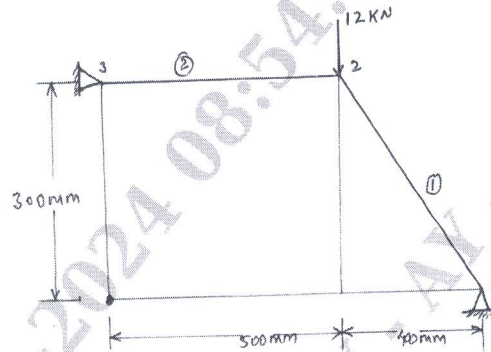

Fig. Q4 (b)
- b. For truss shown in Fig. Q4 (b), determine the nodal displacement and stresses in each element. Given $E = 2 \times 10^5 \text{ N/mm}^2$, $A_c = 200 \text{ mm}^2$